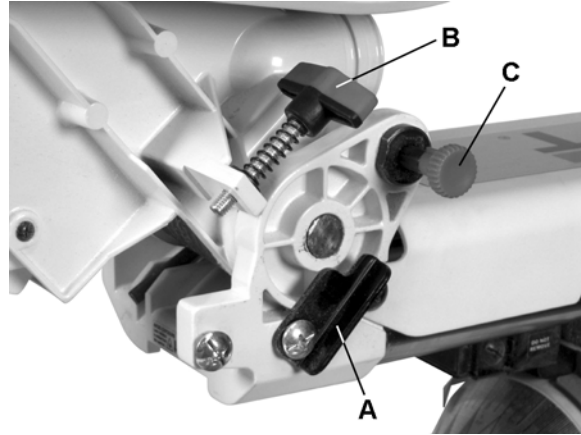

Figure 31
3. Lower the cutting head (the *hold-down latch C*, Fig. 31 must be in the *out* position as shown) so the tip of the blade touches the top surface workpiece at the marked line.